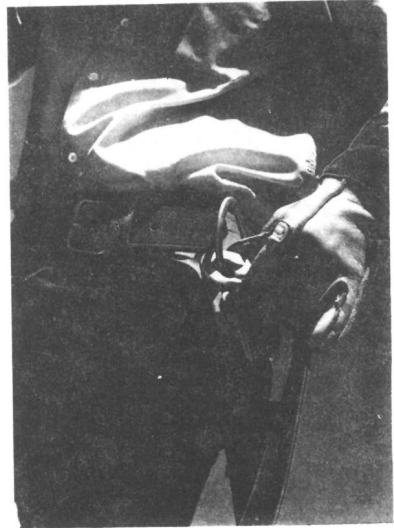

FIGURE 33.
a. The top safety strap snap is disengaged from the D-ring by depressing the keeper with the index finger of the left hand. The thumb backs up the snap hook as shown in Figure 33.